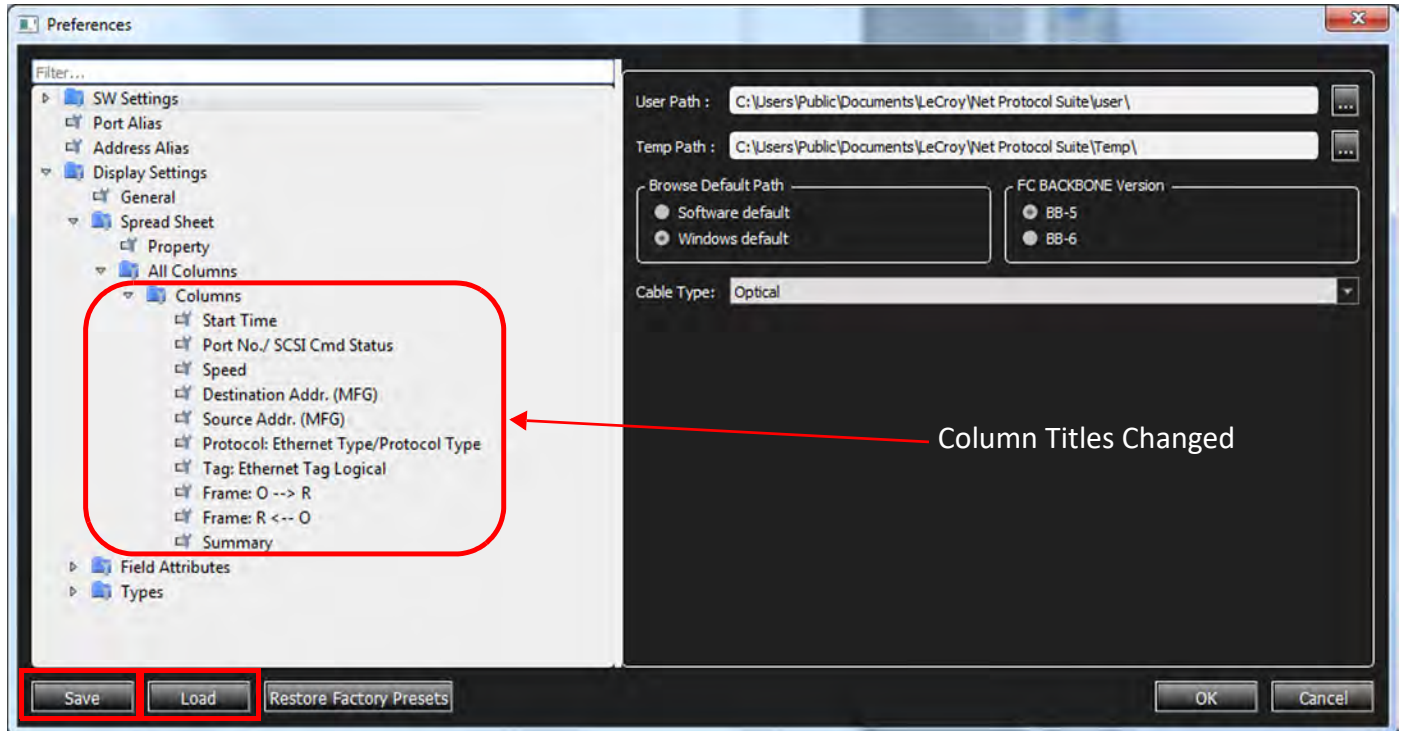

Figure 3.68: Save and Load a Set of Column Settings
The dialog window appears containing the **Save** and **Load** buttons (Figure 3.68). Use these buttons to save a set of column changes or load a previously saved set of Column changes.
3. Use the **Save** and **Load** buttons to Load a previously Saved set of Column changes. See Figure 3.68.